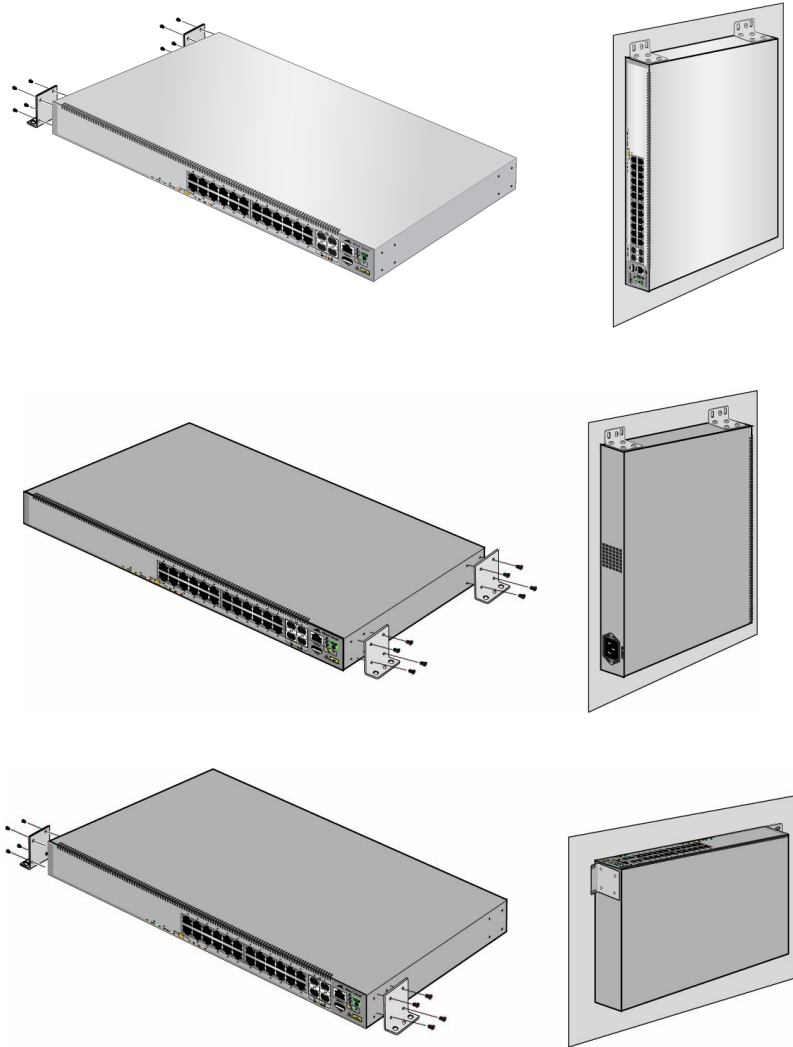

Figure 57. Attaching Wall Brackets to x530L-28GTX, x530L-28GPX, x530L-52GTX, and x530L-52GPX Switches
4. For the x530L-28GTX, x530L-28GPX, x530L-52GTX, and x530L-52GPX Switches, attach the two wall/equipment rack brackets with eight screws to the sides of the switch. Refer to Figure 57 on page 95.